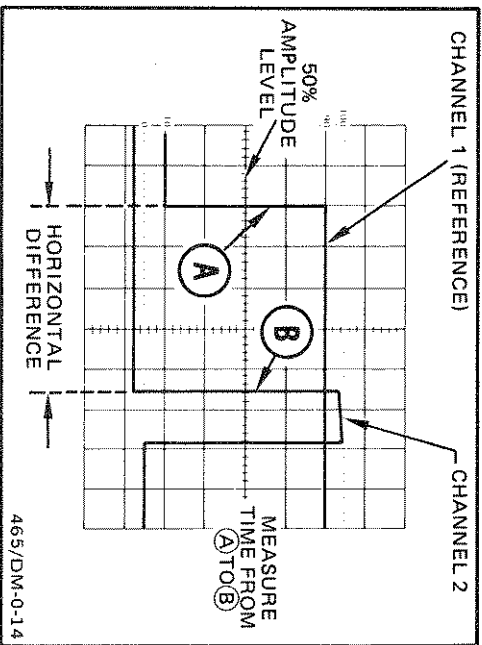

Figure 18. Time difference between two time-related pulses.
9. Set the A TIME/DIV switch to a sweep speed which provides three or more divisions of horizontal separation between the reference points on the two displays. Center each of the displays vertically (see Figure 18).